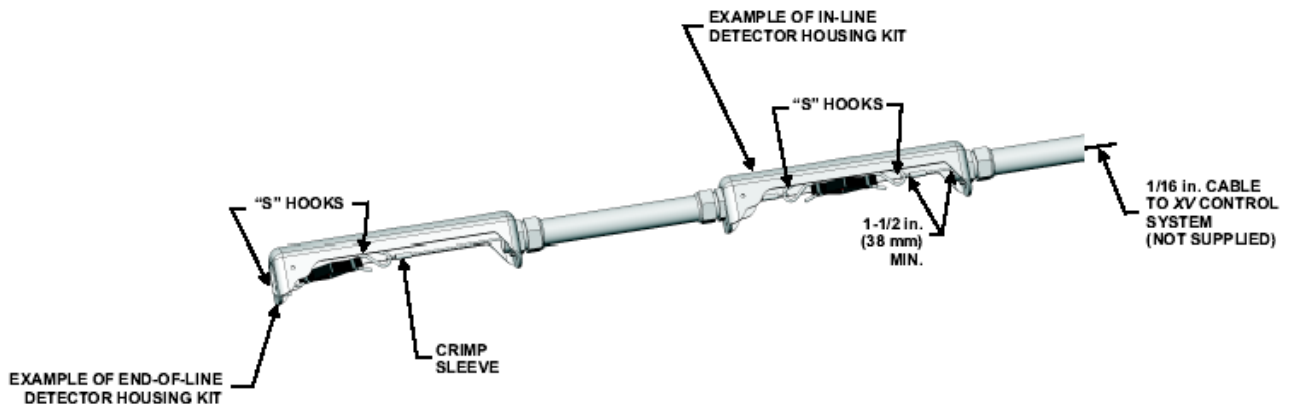

Figure 4-22. Detector Housing Kit Installation, P/N 804548
6. Install detectors of proper rating as described in Paragraph 3-2.4. To install detectors, use the following steps. Always start detector installation at the last detector (see Figures 4-22 and 4-23).